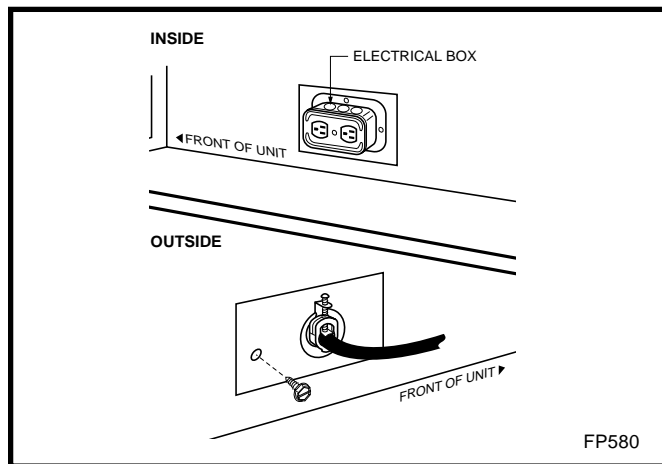

Fig. 9 EB-1 receptacle.
1. Unscrew the retaining screw from the EB-1 base plate (Fig. 9) and remove the EB-1 assembly from the fireplace.
4. Feed the supply line in from the outside through the cable clamp. (Fig. 9)